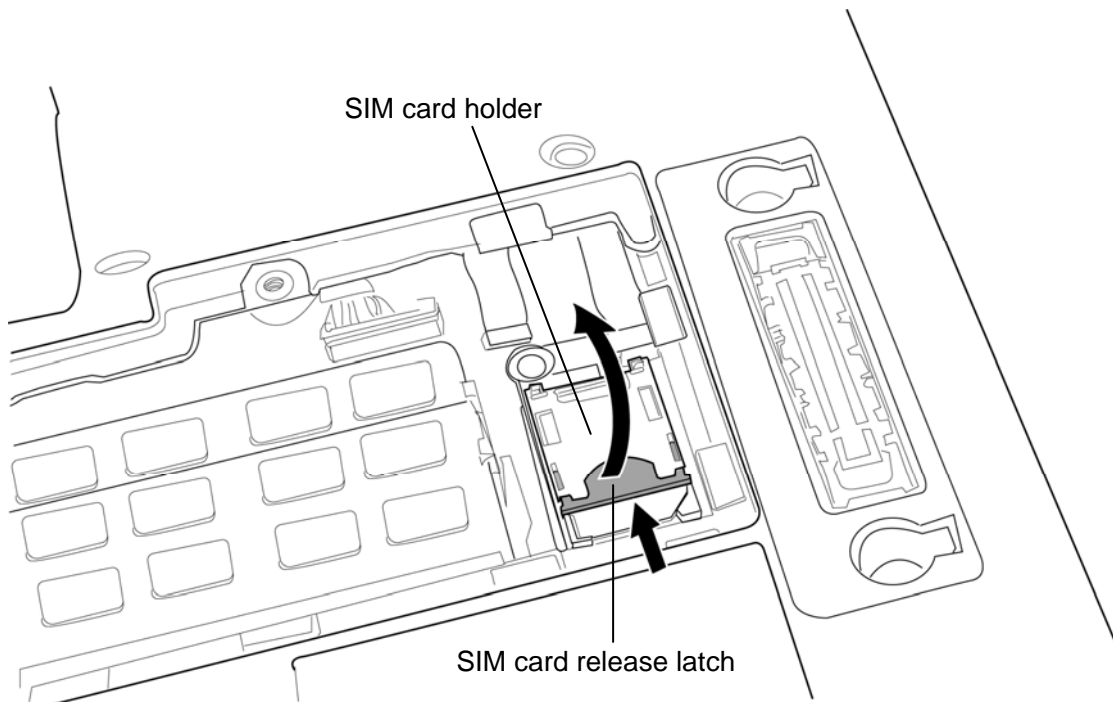

Figure 4-8 Removing the SIM card (1)
To remove the SIM card, follow the steps below and refer to Figure 4-8 and 4-9.
To install the SIM card, follow the steps below and refer to Figure 4-8 and 4-9.
2. Lay the **SIM card holder** down and lock the **SIM card release latch** while sliding it in the opposite direction as shown in the figure 4-8.